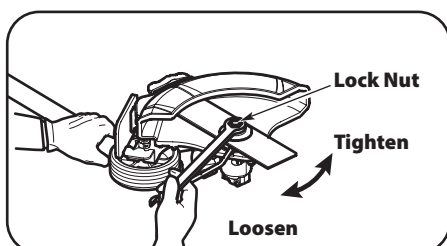

Figure 3
2. Keep the locking rod in place by holding it next to the lower shaft housing. See Figure 3.
5. Keep the locking rod in place by holding it next to the shaft housing. See Figure 3.